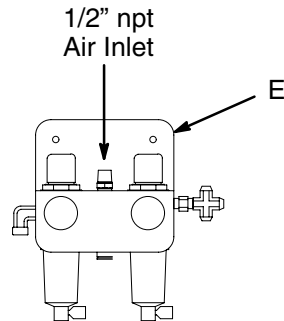

Fig. 3.11
1. 25 ft. (7.6 m) of air line is provided with the air control kit (E). See Fig. 3.11.